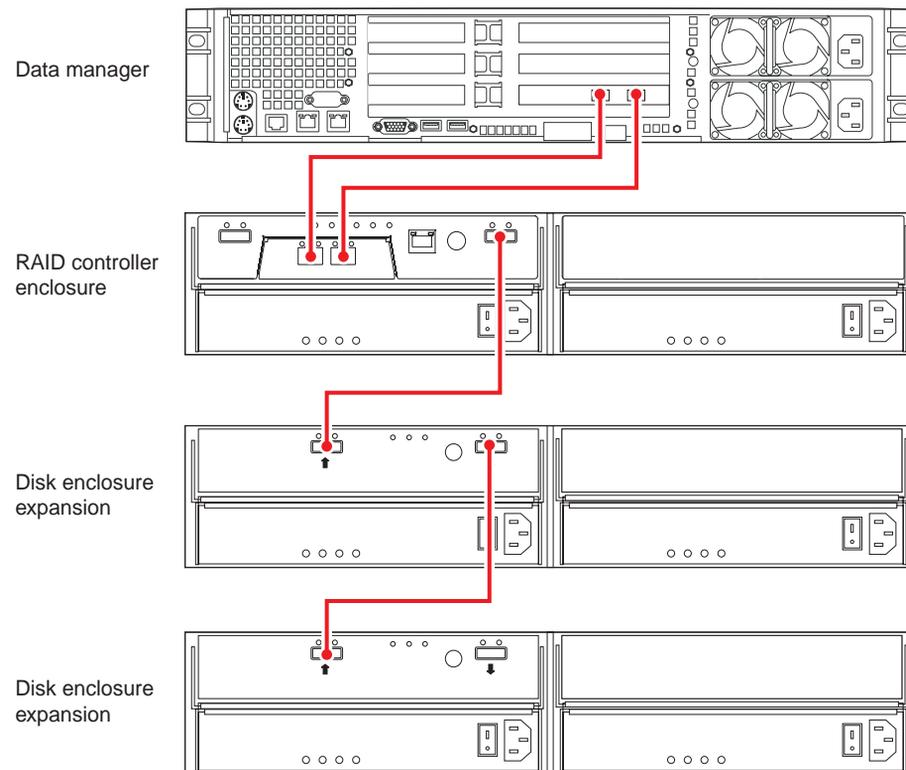

Figure 1-14 Data Manager, Single-Controller RAID Enclosure and Two Disk Expansion Units
Use the following steps and Figure 1-14 to cable a data manager to a single-controller SATA RAID enclosure and two disk expansion enclosures.
1. Connect the Data Manager's Fibre Channel PCI card port A to the RAID controller's host 1 port in the controller enclosure, see Figure 1-14.